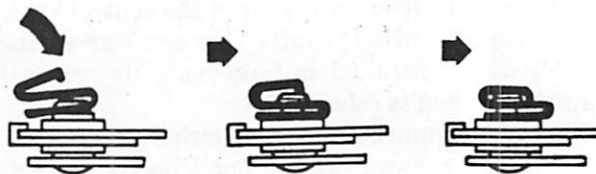

Fig. 3T-14 Linkage Retainer Clip Installation Sequence
- (1) Position wiper motor assembly and insert crank stud into drive link bushing.
- (2) Press retaining clip onto stud and slide it in place in stud groove (fig. 3T-14). Check for positive retention.